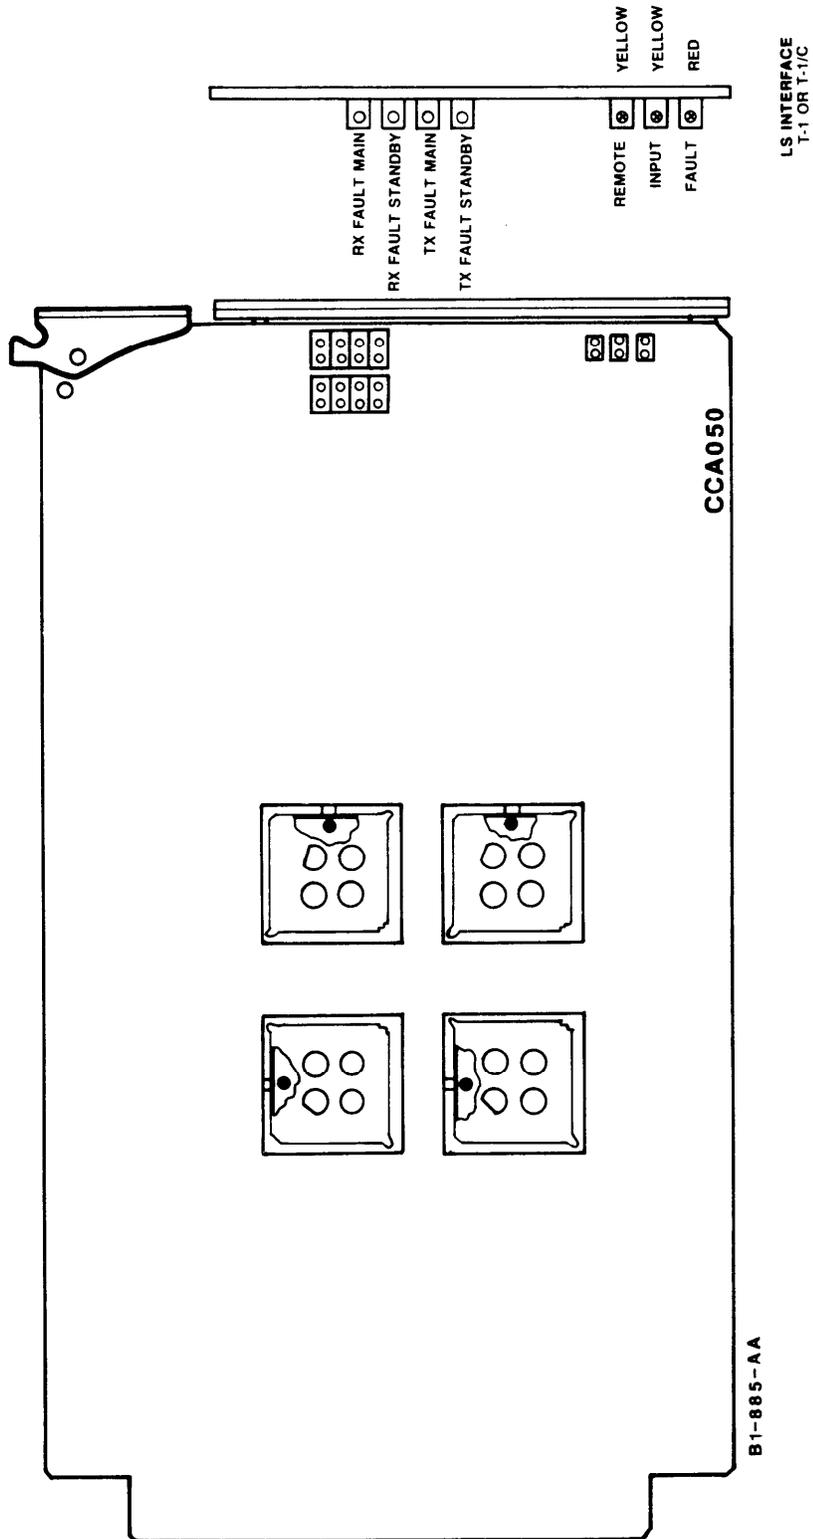
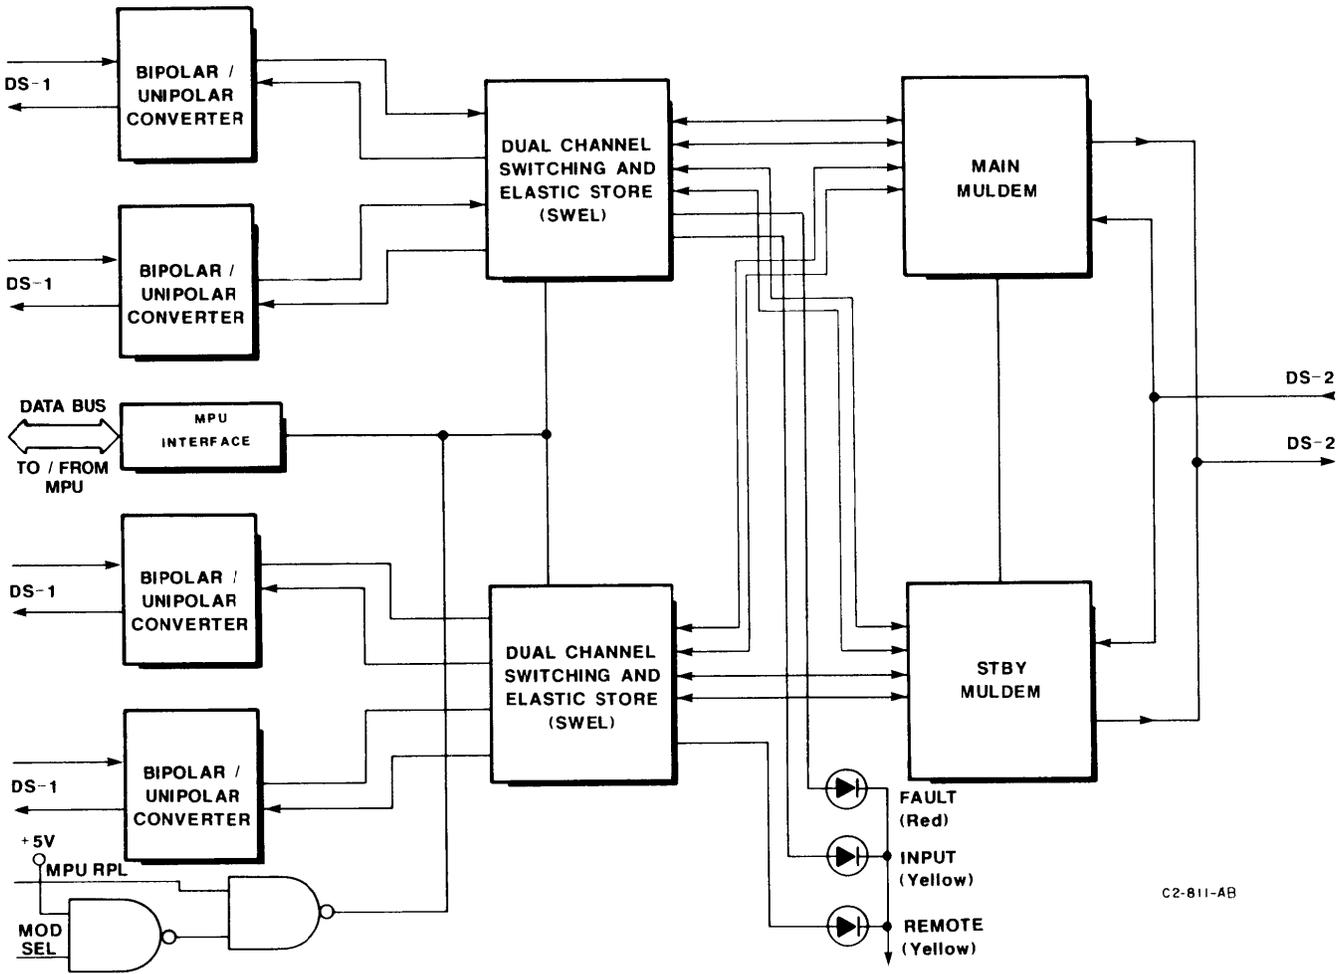

Figure 1. T1 LS Interface Card CCA050G1
Figure 2. T1 IS Interface Card Block Diagram
1.01 This subsection presents a functional description of the T1 LS Interface cards, used in the FOX-2. See Figures 1 and 1A, for views of the T1 LS Interface card. Figure 2 contains a block diagram of the T1 LS Interface card circuits. TABLE A describes the LEDs and Switches found on this card.